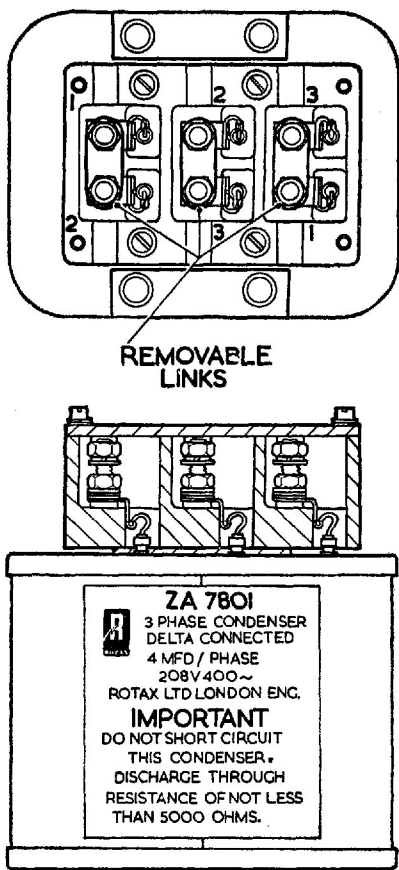

Fig. 1. 3-phase condenser unit, Type ZA 7801
3. The unit (fig. 1) consists of three banks of four $1\ \mu\text{F}$ capacitors suitably interconnected to give a capacity of $4\ \mu\text{F}$ per phase